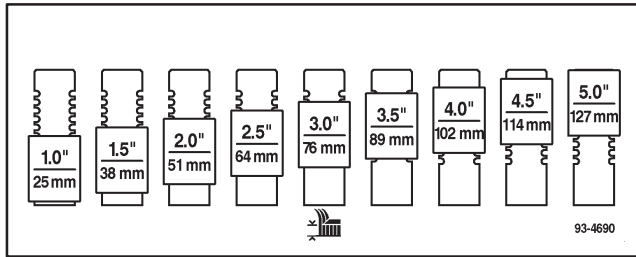

Figure 7
3. Insert snapper pin into castor arm and through groove in castor shaft to get desired height-of-cut (Fig. 7).